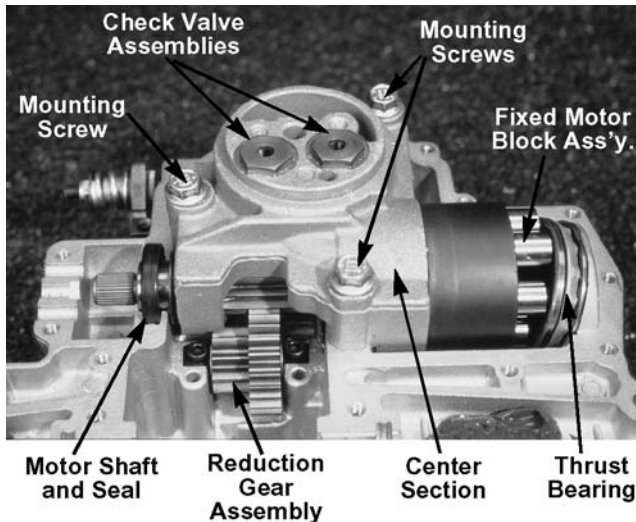

Figure 6-138
- G. Check valve assemblies (insure each check valve's bleed orifice is open) See Figure 6-138.